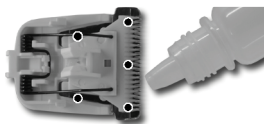

Figure 5: Applying lubricating oil.
5. Apply 1 or 2 drops of lubricating oil on each of the 5 cutter lubrication points (Figure 5).